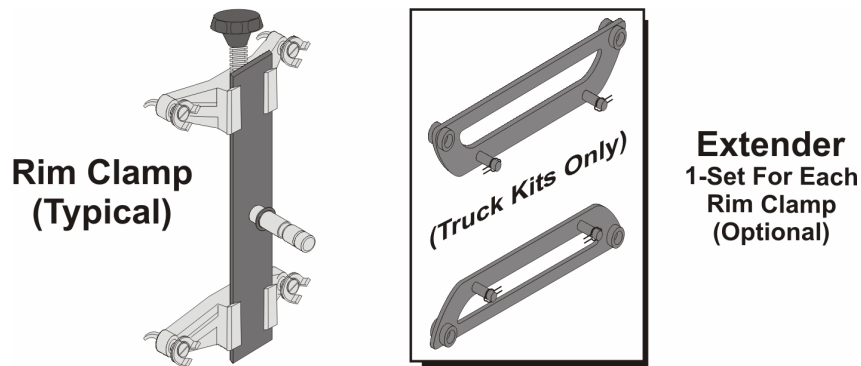

Figure 1-1. Rim Clamps (W/Truck Option)
- 1.2.1.1 Open the shipping container and carefully remove four rim clamps. The rim clamps are interlocked when packaged, so some careful maneuvering of first 2 rim clamps, may be required. Refer to Figure 1-1, as necessary.